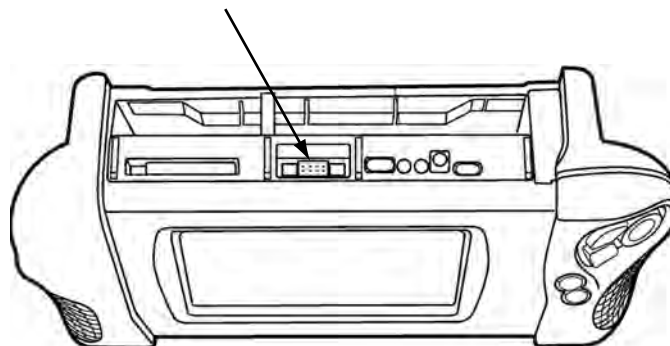

Figure 2-14 MODIS™ Serial communications port
3. Connect the other end of the long serial communications cable to your MODIS™ serial communications port located in the center of the top of the MODIS™ unit (Figure 2-14).